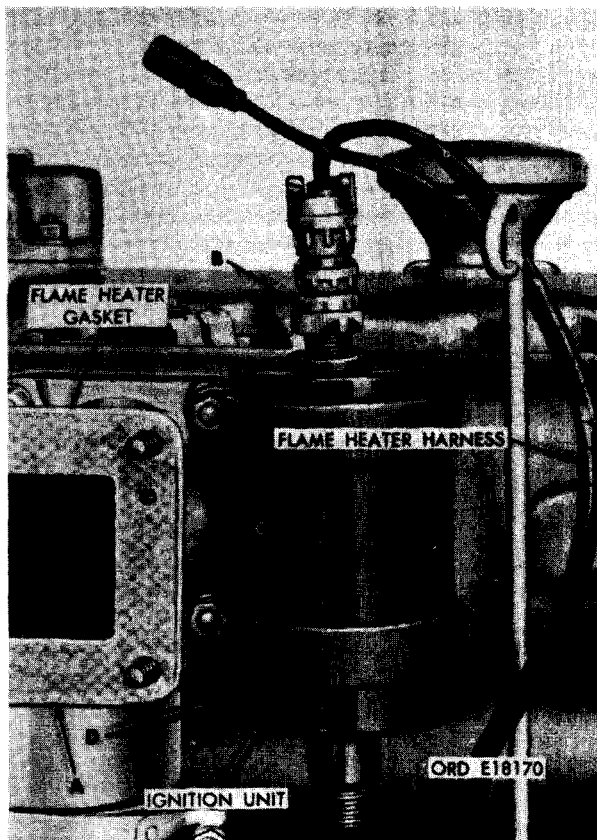

FIGURE 246. REMOVING OR INSTALLING FLAME HEATER IGNITION UNIT.
- (2) Figure 246. (A) Remove and discard flame heater gasket. (B) Disconnect flame heater harness from ignition unit. (C) Remove two 5/16-inch plain nuts and 5/16-inch lock washers securing two clamps which hold ignition unit to intake manifold elbow. (D) Remove ignition unit and clamps. Remove clamps from ignition unit.